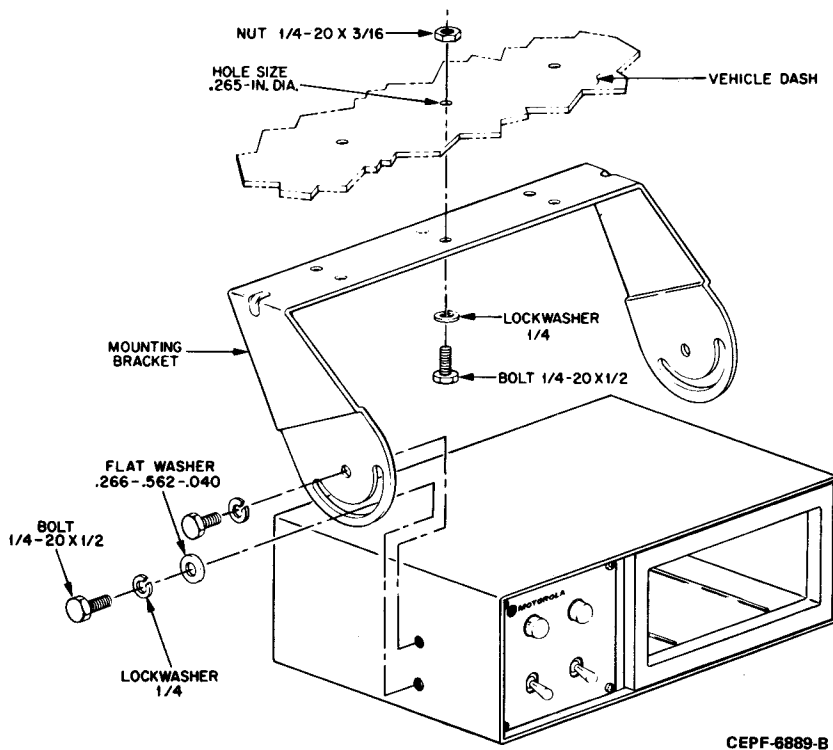
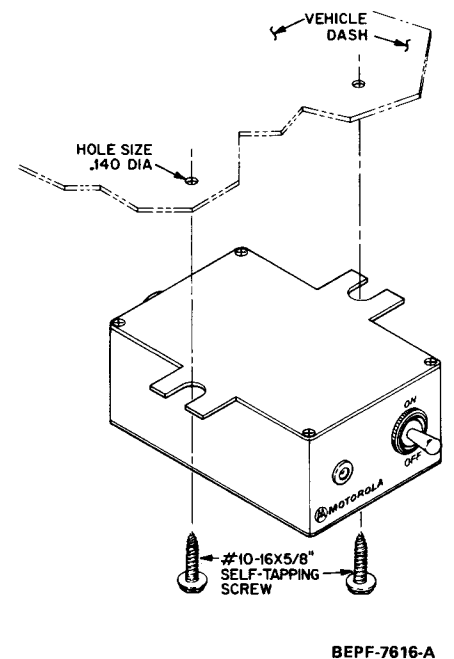

Figure 6. Vehicular Charger or Holder Installation Detail
Figure 7. Control Unit Installation Detail
The PAC●RT vehicular repeater control unit may be a control unit/vehicular charger, a control unit/holder, or a control unit only. Mounting hardware is supplied with each unit for mounting the control unit below the dashboard. Refer to Figure 6 for the control unit/vehicular charger or the control unit/holder mounting details. Refer to Figure 7 for the control unit mounting details.
- b. Mount the control unit mounting bracket to the dash using the mounting hardware designated in Figure 6 or 7 as applicable.